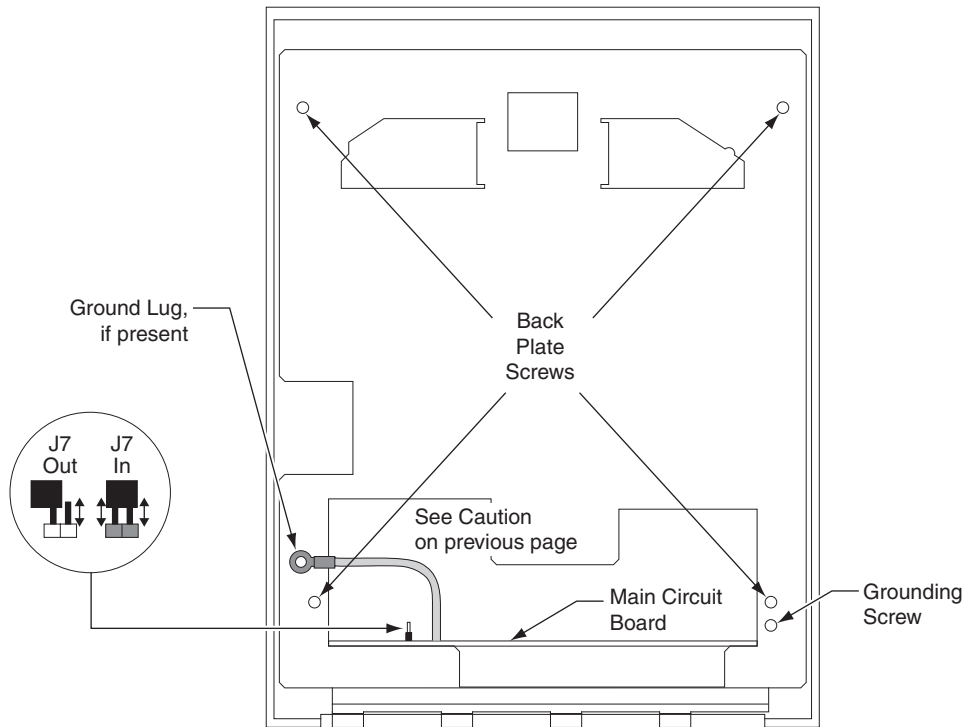

Figure 2
▲ CAUTION: If the unit is equipped with the optional battery backup, remove the J7 jumper before proceeding. See figure 2 on the next page for location of J7.
5. Set the reader on a firm surface such as a table. Remove the four screws that secure the back plate to the HandReader. Remove the grounding screw and/or ground lug (if present). See figure 2 below.